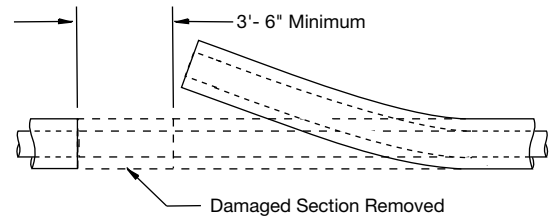

Figure F-104. Remove damaged section of pipe
1. The damaged section of pipe is removed and the area cleared to allow the pipe to move in the radial direction. Note that only one end of the pipe needs this flexibility (Figure F-104).